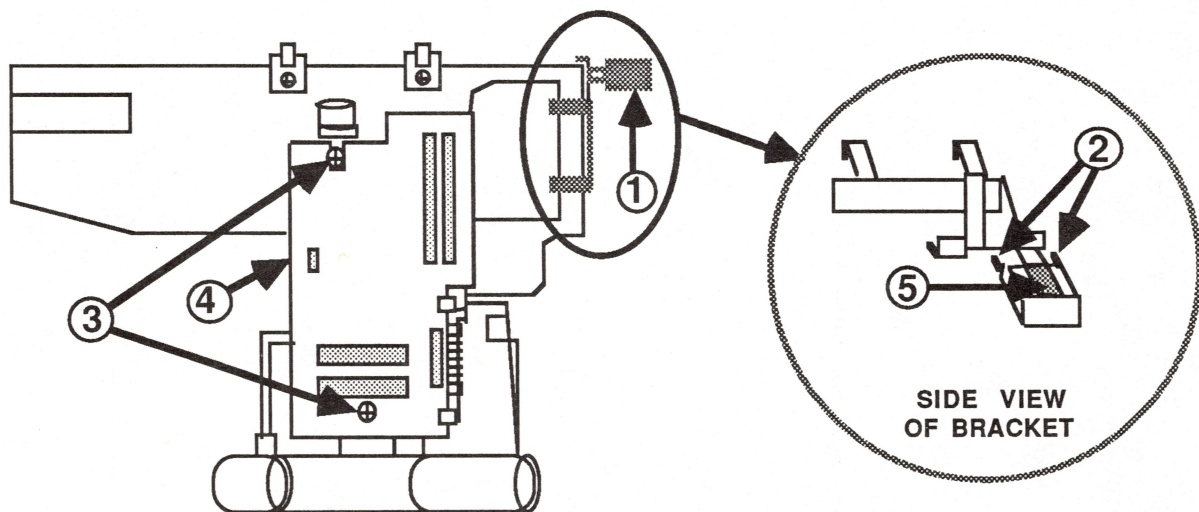

FIGURE 32
14. Locate the black plastic clamp on the carrier assembly holding the small connector in place (see Figure 32, #1). Pry the two tabs (see Figure 32, #2) loose and gently pull the clamp off and up.
15. Remove the two screws holding the print head PCB in place (see Figure 32, #3).
16. Gently lift the side of the board (see Figure 32, #4), slide it out from the tabs and remove it from the carrier assembly.
17. Slide the small three pin connector mounted on the carrier assembly out (see Figure 32, #5 for location of connector).
1. Slide the small three pin connector, which is wired to the print head PCB, onto the mount provided on the carrier assembly (see Figure 32, #5 for location).
3. Replace the two screws (see Figure 32, #3).
4. Position the bracket as shown in Figure 32, #1, and snap it into place.